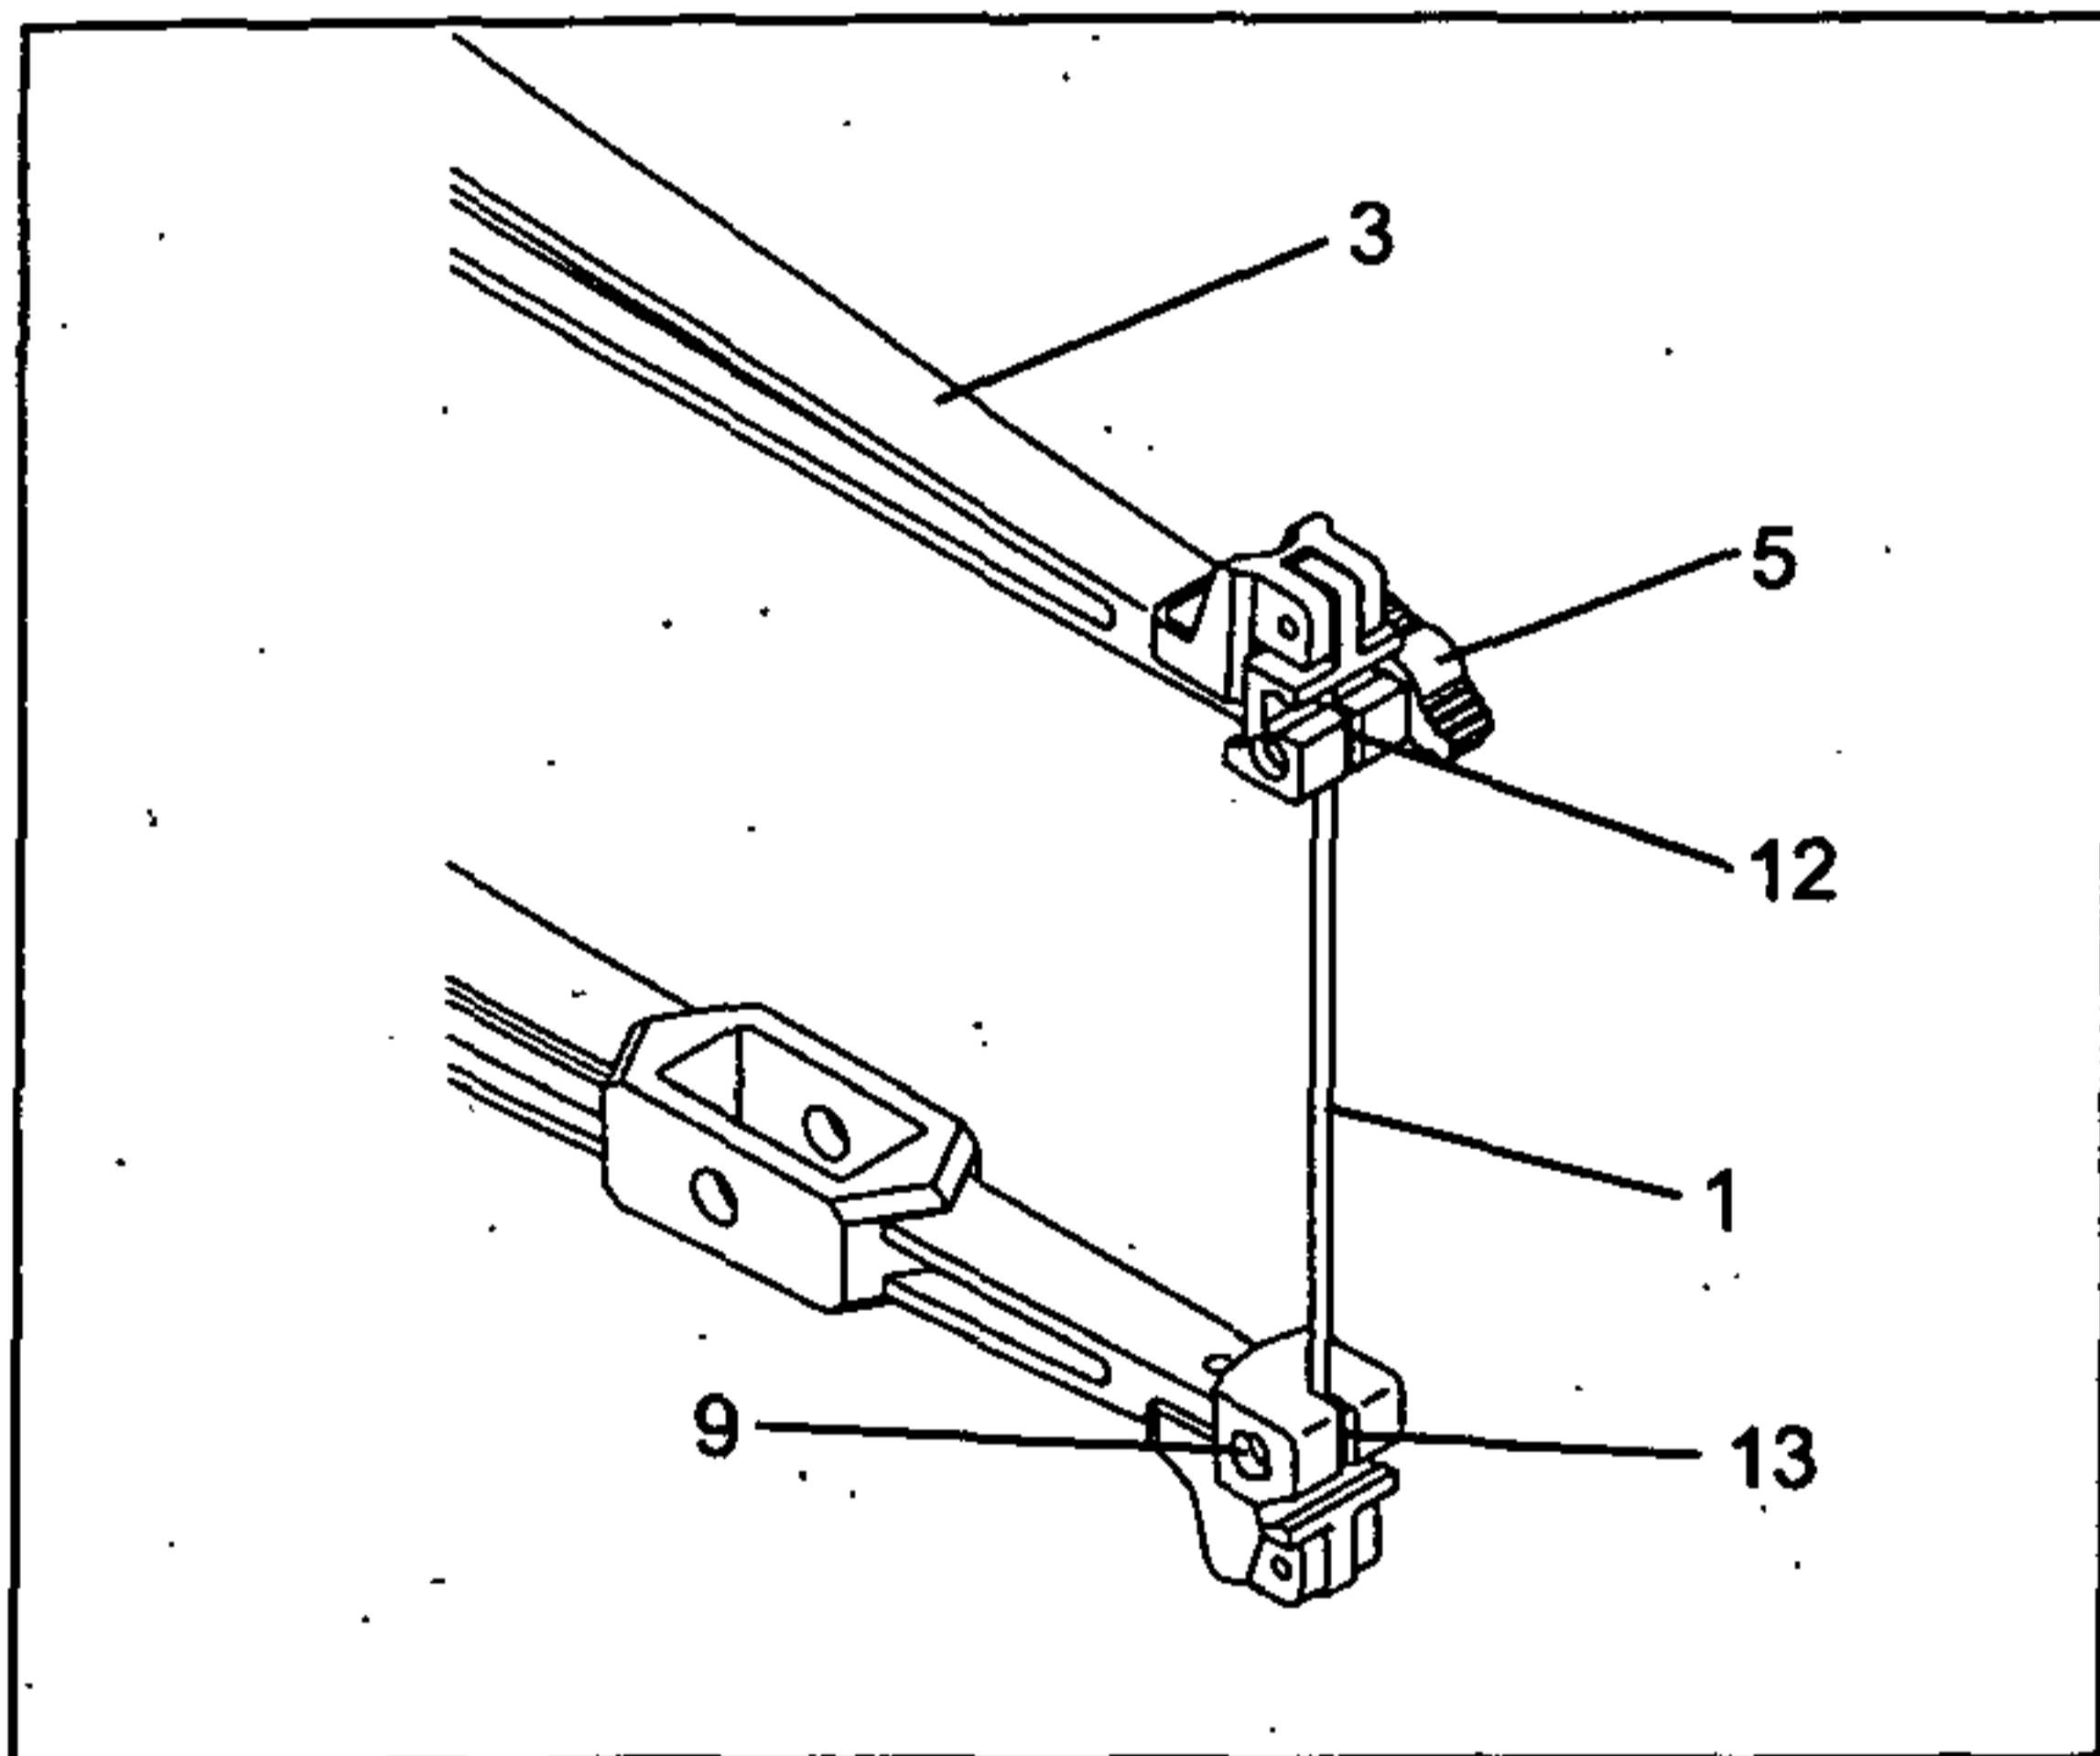

Fig. 3
4. Insert the blade (1) into the lower blade holder slot (13), then tighten the lower blade holder set screw (9) with a hexagon wrench. (Fig. 3)